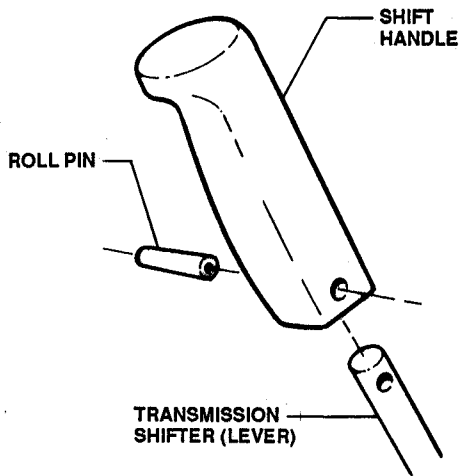

FIGURE 4.7
- A. Remove Shift Handle by driving out Roll Pin. See Figure 4.7.